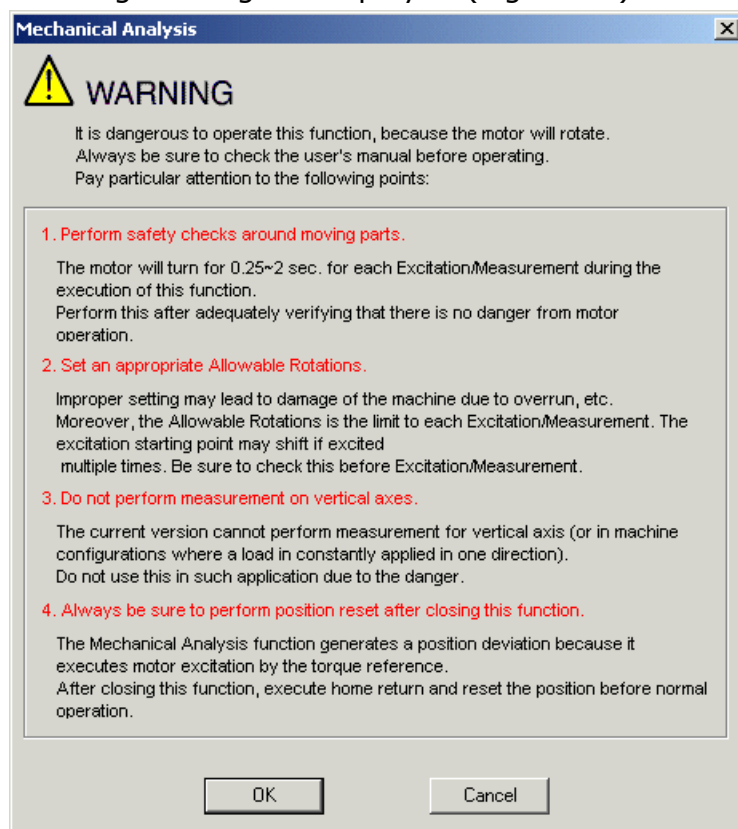

Figure 29: Mechanical Analysis Warning Message
1. Click **FFT**  or select **Mechanical Analysis** from the *Tools* menu. A Warning message is displayed (Figure 29):